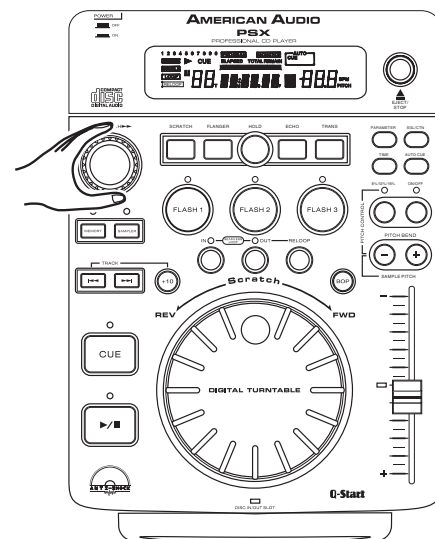

Figure 14
REPLAY LOOP - The **RELOOP (19)** function allows you to return to your stored loop at any time. The **IN BUTTON (12)** and **OUT BUTTON (18)** LEDs will indicate a loop is stored in memory, and may be played at any time. To replay the loop, press the **RELOOP BUTTON (19)**. The **IN BUTTON (12)** and **OUT BUTTON (18)** LEDs will again begin to flash indicating SEAMLESS LOOP mode has been activated (Figure 14) and your stored loop will immediately begin to play.